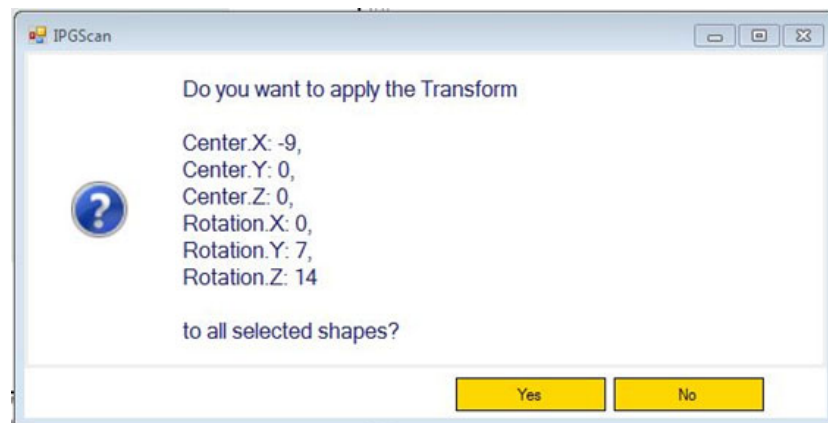

Figure 131: Confirm Transform
8. Click Yes to apply the Transform. Click No to revert the object(s) to the starting location. See Figure 131 (below).